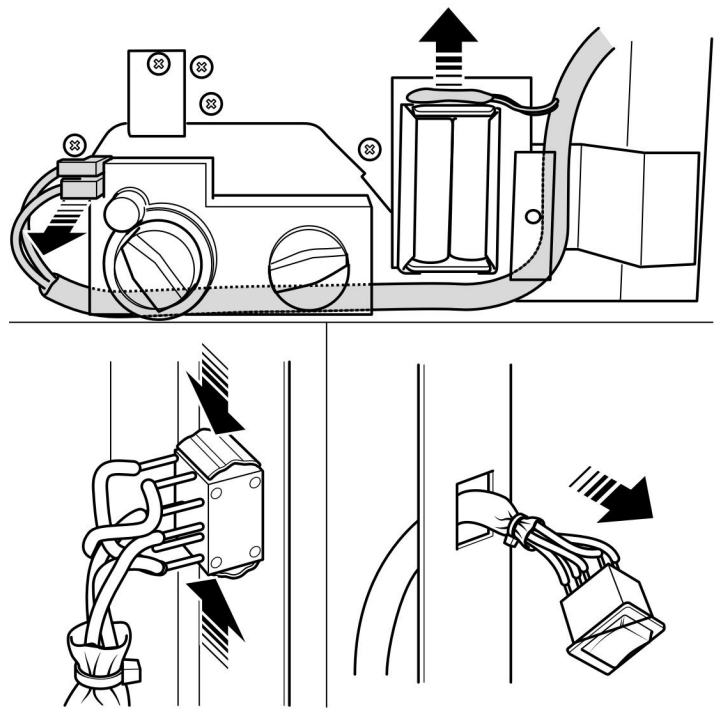

Figure 47. Switch and wiring loom removal.
(See figure 47).
- When replacing, make sure that the wiring loom runs above and down to the right of the battery box and behind the control valve (See figure 47).